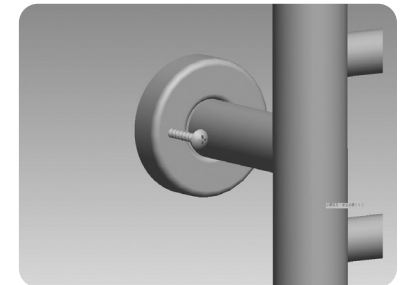

Figure 2
- Screw each fixing point to the wall (see Figure 2).